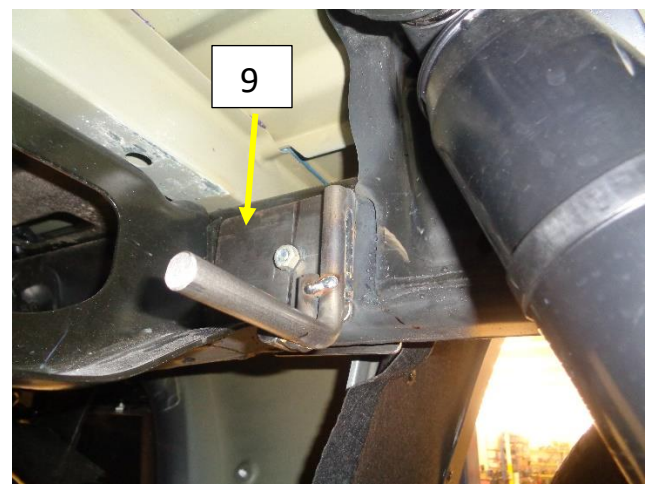

Figure 7
11. Install the supplied frame hanger assembly (9) at that location using the supplied 3/8" x 4" bolt (14), flat washers (16), lock washer, nut (15), and backing plate (10). **Fig.7**
12. Center the frame hanger assembly over the hole and up against the weld on the rear crossmember. **Fig.7**
13. Install the 4" bolt (14) with flat washer (16) into the backing plate (10) and install the bolt through the frame into the frame hanger assembly (9). Install a flat washer (16), split washer (17) and nut (15), and then tighten. **Fig.7**